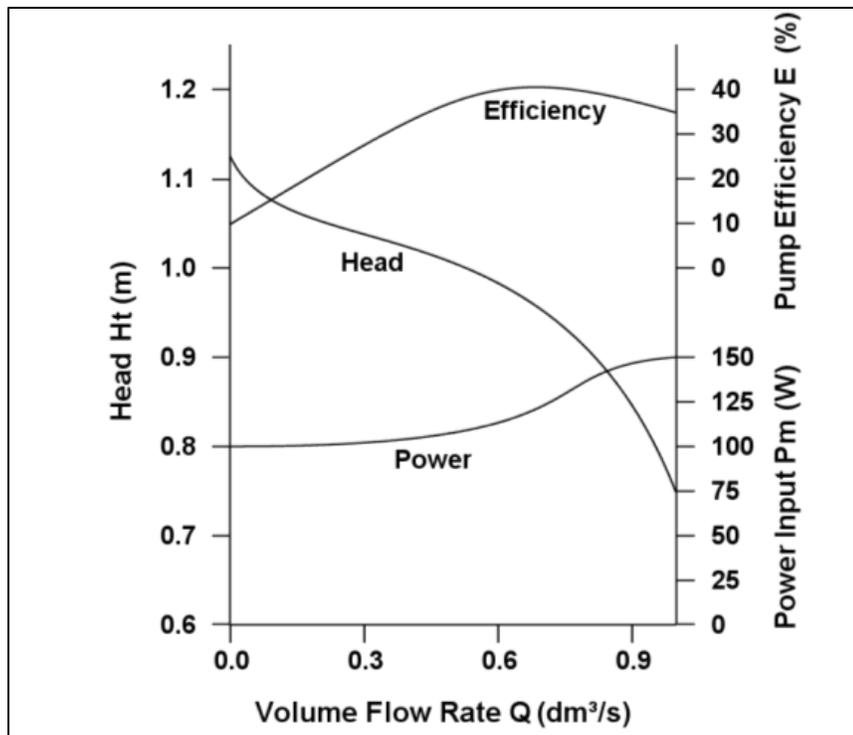

Figure 2 Examples for Pump Performance Curves
Each of these parameters is measured at constant pump speed, and is plotted against the volume flow rate, Q , through the pump. An example of this of graphical representation of pump performance is given in Figure 2, below.
Examining Figure 2, the general performance of the pump can be determined.
- 4) Compare the shapes of the curves obtained to the example presented in Figure 2. Discuss any similarities and differences between the example presented and Pump1.